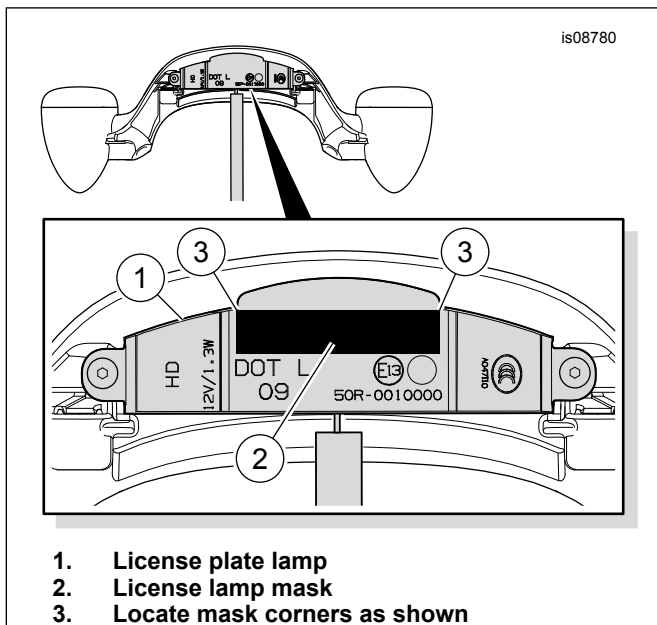

Figure 1. Install License Lamp Mask
6. Clean the surface of the OE license plate lamp (B) with a 50/50 mix of isopropyl alcohol and water. Let dry completely.
7. Get the license lamp mask (5) from the kit.
8. Remove the adhesive backing from the mask. See Figure 1. Install the mask (2) onto the license plate lamp (1) as shown.